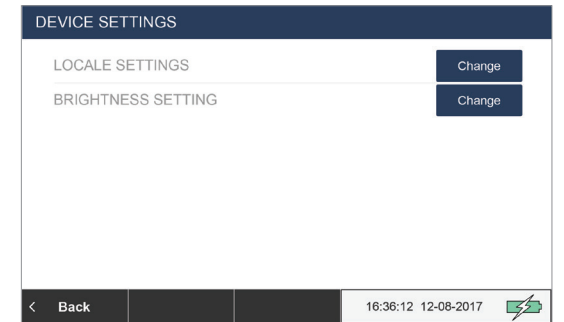

Figure 18 Device Settings Screen
10. To set the time and date or select units for height and weight, press **Change** next to **Locale Settings** on the **Device Settings** screen (see Figure 18).
- To change the screen brightness, from the *Device Settings* screen (see Figure 18) press *Change* to the right of *Brightness Settings* to go to the *Adjust Brightness* screen.